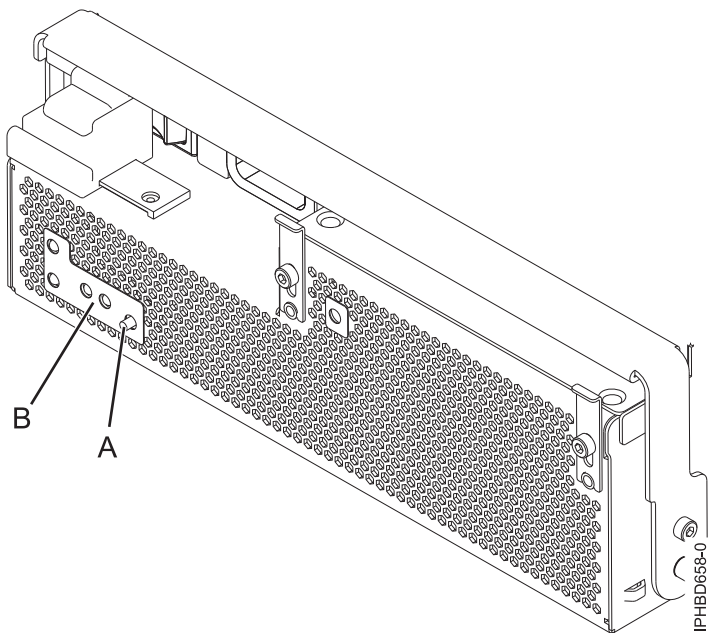
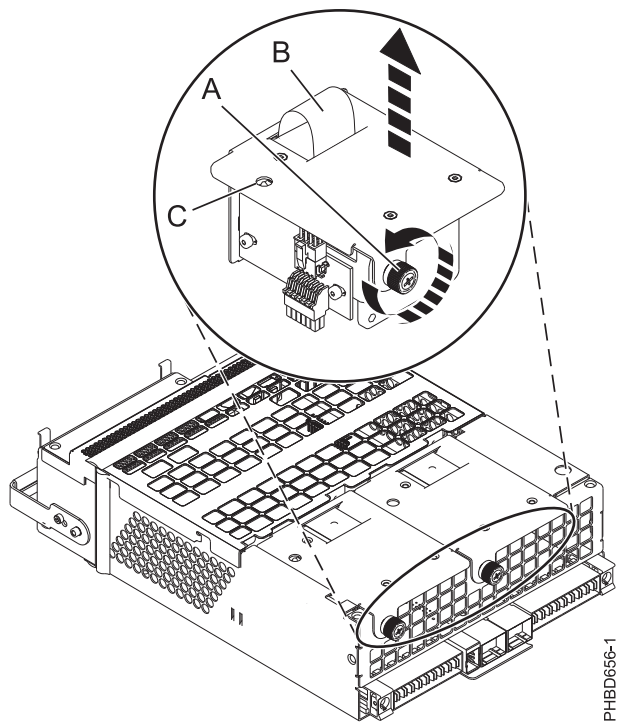

Figure 15. Fan fault LED and fan identify button
Figure 16. Removing a power supply fan
Note: If a fan fails, the amber fan fault LED on the front of the Offline Converter Assembly (OCA) (B), shown in Figure 15, is on solid.
- a. Identify the failing fan by pressing the fan identify button (A) shown in Figure 15 on page 15. An amber left or right fan-fault LED (C) on solid, as shown in Figure 16, indicates the faulty fan.
- b. Loosen the thumbscrew (A) that holds the fan in the power-supply assembly, as shown in Figure 16.
- c. Use the recessed fan handle (B) to pull the fan out of the power-supply assembly, as shown in Figure 16.